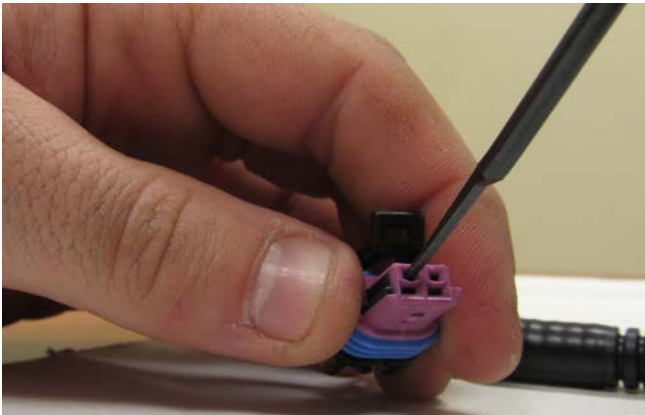

Figure 2a
2. Using an extraction tool, release the terminal by pressing the terminal locking tab away from the terminal. Keep pressing the terminal locking tab away from terminal until terminal is completely removed. **Reference Figure 2a.**